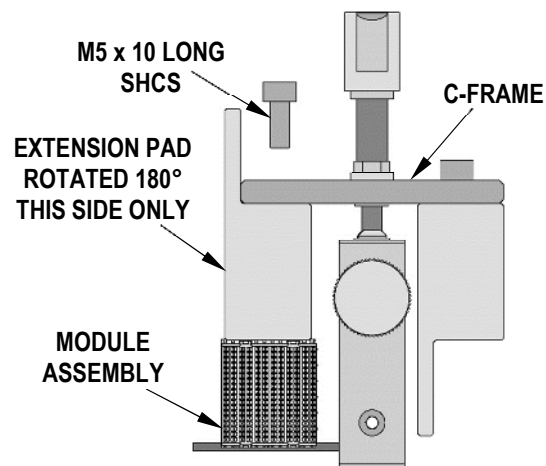

Figure 6
1. Remove the M5 x 10 long SHCS on the side where the extra module is located. See Figure 6.